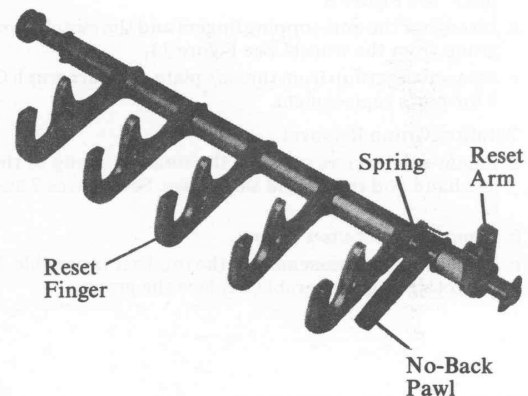

Figure 11. Reset Finger Group.
2. Reset Finger Group Parts Replacement. See Figure 11. Individual reset fingers, reset arm, no-back pawl and pawl spring may be replaced as required.